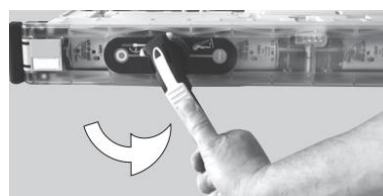

Fig. 18 / Fig: 18
- Turn the lever counter clockwise about 180° until stop (Fig: 18).